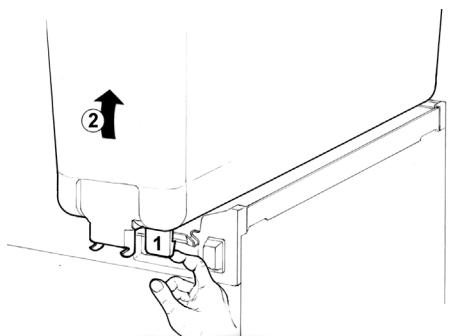

figure 2
2 Remove the empty bowl by pulling lever (1) and lifting its front side (faucet side) up and off bowl gasket (see figure 2).